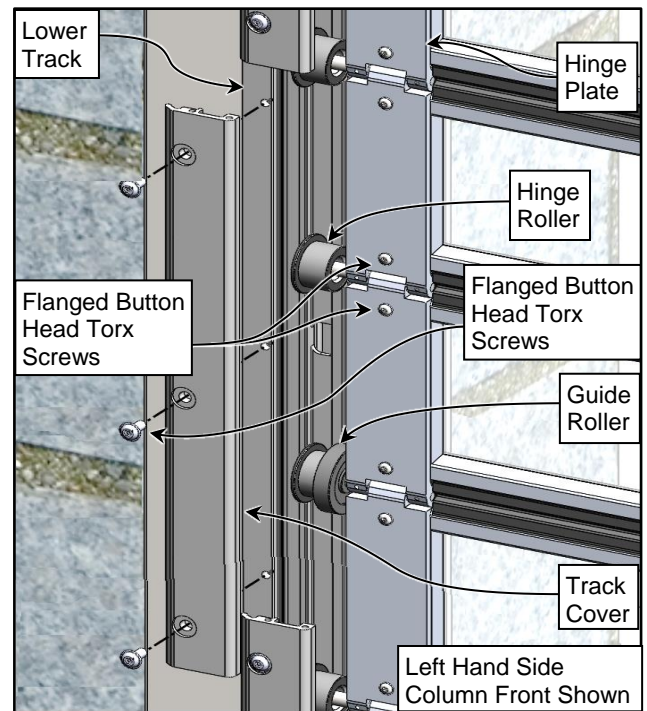

Figure 89
8. Remove the lower assembly track cover from the lower section of door track on both sides of the door panel. Save all hardware. (See Figure 89)